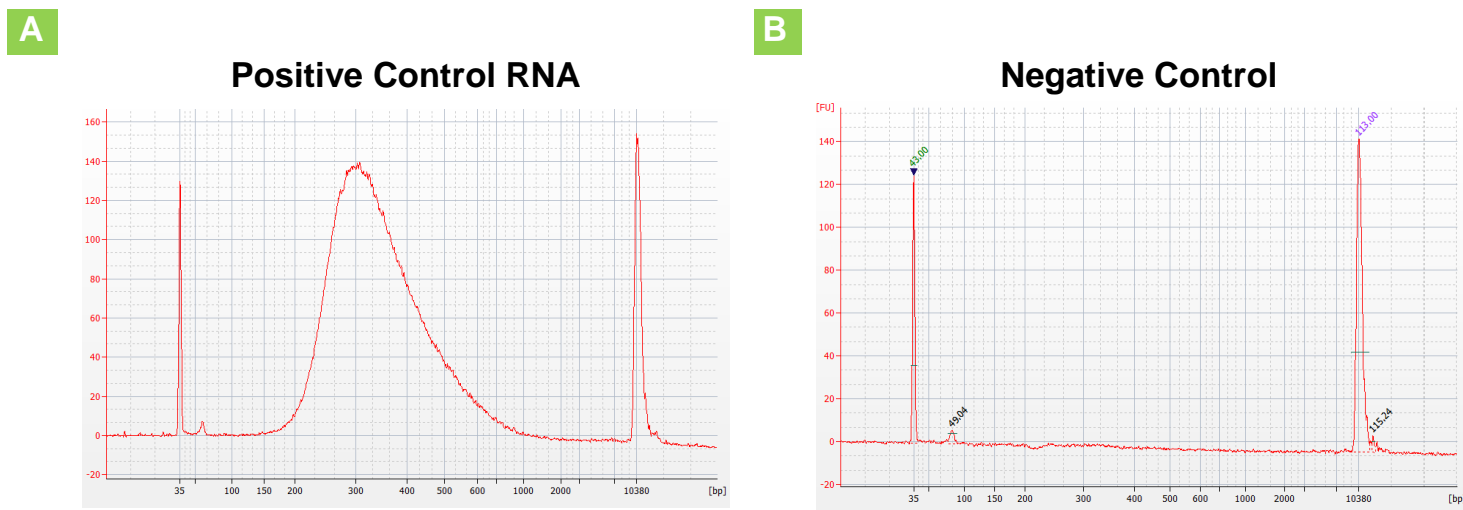

Figure 3. Electropherogram example results from Agilent 2100 bioanalyzer.
3. Compare the results for your samples and (and controls, if performed) to determine whether the sample is suitable for further processing. Successful cDNA synthesis and amplification should yield no product in the negative control (Figure 3, Panel B), and a distinct peak spanning 150–1,000 bp, peaked at ~300 bp for the positive control RNA sample (Figure 3, Panel A), yielding > 7.5 nM RNA-Seq Library (depending on the input and number of cycles).